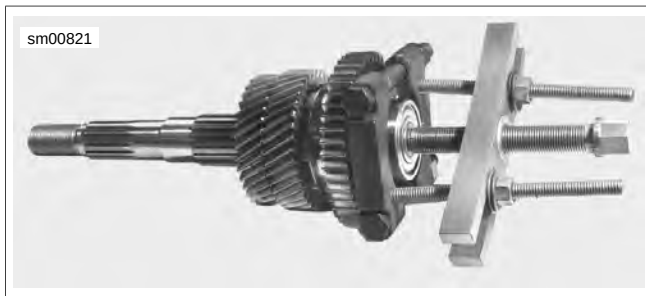

Figure 6-118. 1st Gear Bearing Removal
2. See Figure 6-118. Remove and discard 1st gear bearing.